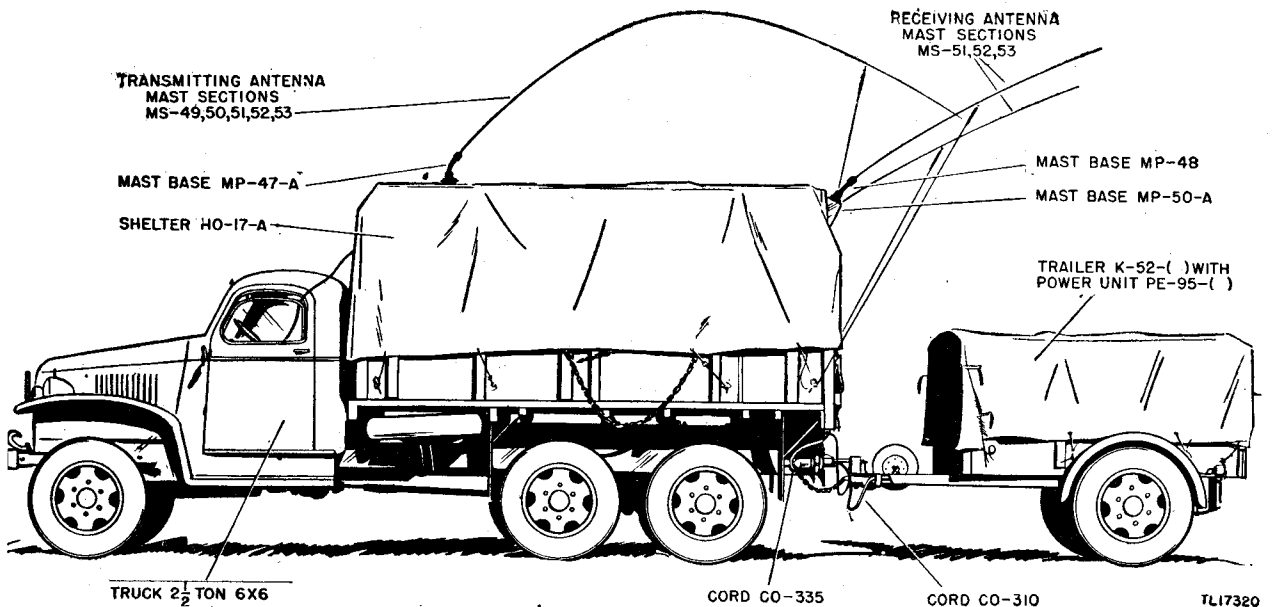
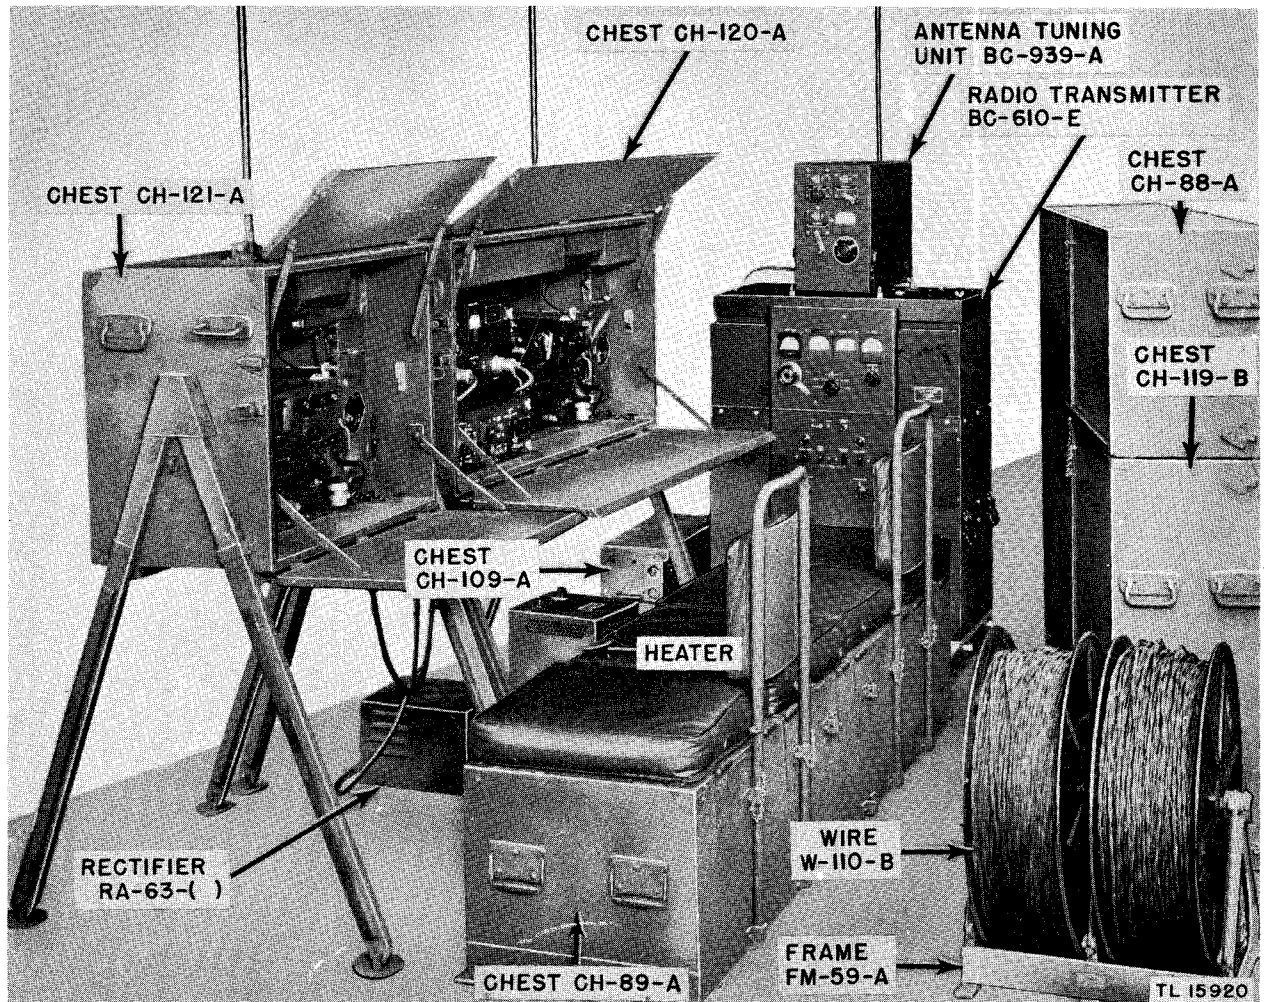
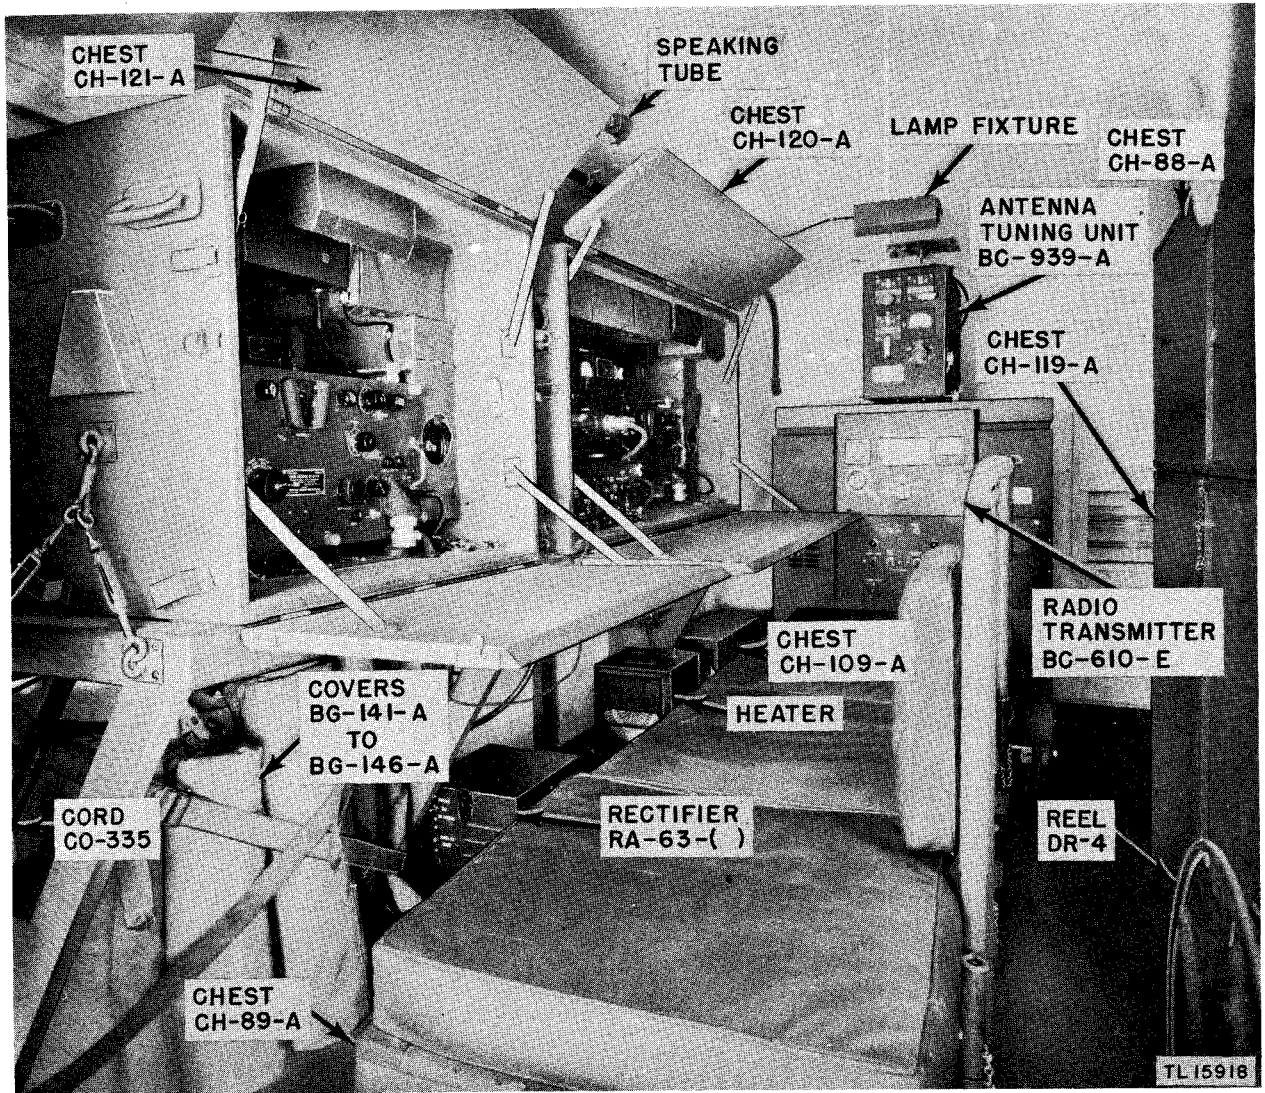

Figure 1. Radio Set SCR-399-A installed as a mobile station.
Figure 2. Radio Set SCR-499-A, operating and accessory components arranged as a fixed station.
Figure 3. Radio Set SCR-399-A installed in Shelter HO-17-A.
a. This manual covers Radio Sets SCR-399-A and SCR-499-A. There are no differences in the operating components and power sources of the two sets, but Radio Set SCR-399-A is usually installed as a mobile station (fig. 1) and Radio Set SCR-499-A is ordinarily set up as a fixed station (fig. 2). To facilitate its use as a mobile station, Radio Set SCR-
Radio Set SCR-399-A is a relatively high-power radio communications station. Under all conditions of atmosphere and terrain, the radio set will provide voice or c-w (continuous-wave) communication over a range of more than 100 miles from a stationary position, or while moving at high speed. For mobile use, Shelter HO-17-A should be mounted on a 2½-ton, 6 x 6, cargo truck. (See fig. 1.) Two seats in the truck cab carry the driver and his alternate. In the shelter (fig. 3), two operators may sit at the radio station operating positions. Power Unit PE-95-( ) may be started and stopped by remote control or at the trailer. The transmitting